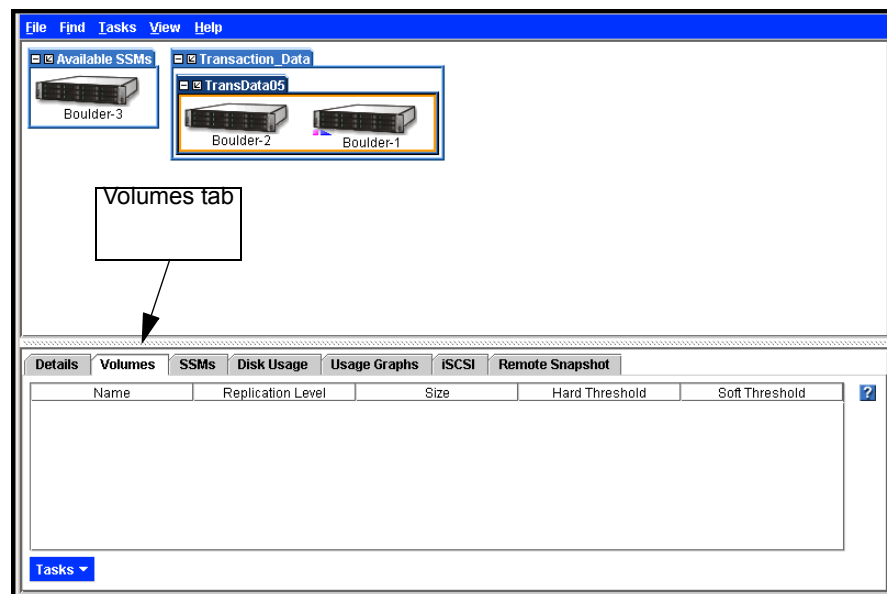

Figure 168. Viewing the Volumes Tab
3. Click the Volumes tab. The Volumes tab opens, shown in Figure 168.